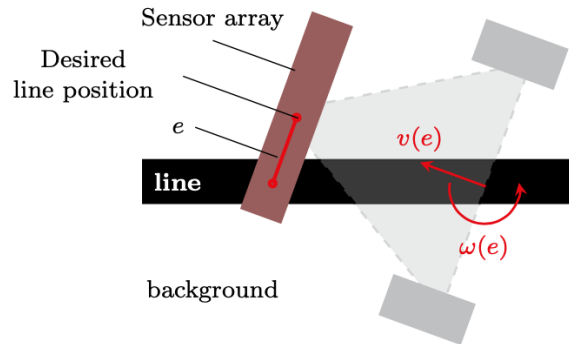

Figure 1.7: Open-loop test to illustrate the required control effort to steer the robot over the line.
3. Now, assume that the robot is away from the centre of the line by some distance. In order to reduce the error, a control effort must be given as illustrated in Figure 1.7. However, the sending of a constant control effort will cause the robot to overshoot the line.